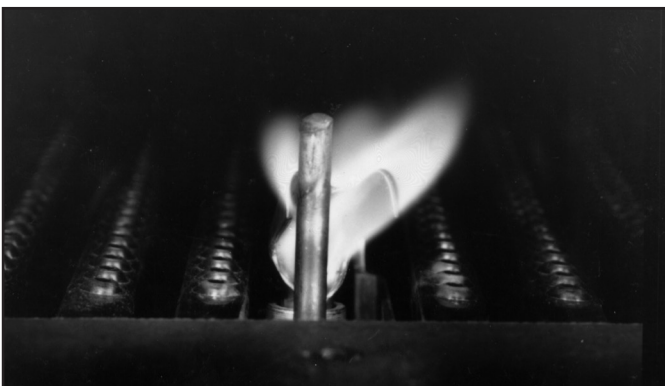

Figure 12. — Pilot Flame Pattern
- A. BURNERS — Visually inspect the main burner flame and the pilot flame at least every three months. Refer to Figures 12 and 13 for normal flame pattern. Fallen scale can usually be dislodged from the tops of the burners with a thin rod, then vacuumed or brushed from the bottom of the burner box. If a more thorough cleaning is deemed necessary to restore a normal flame pattern, the burner tray assembly should be removed and the burners cleaned individually.